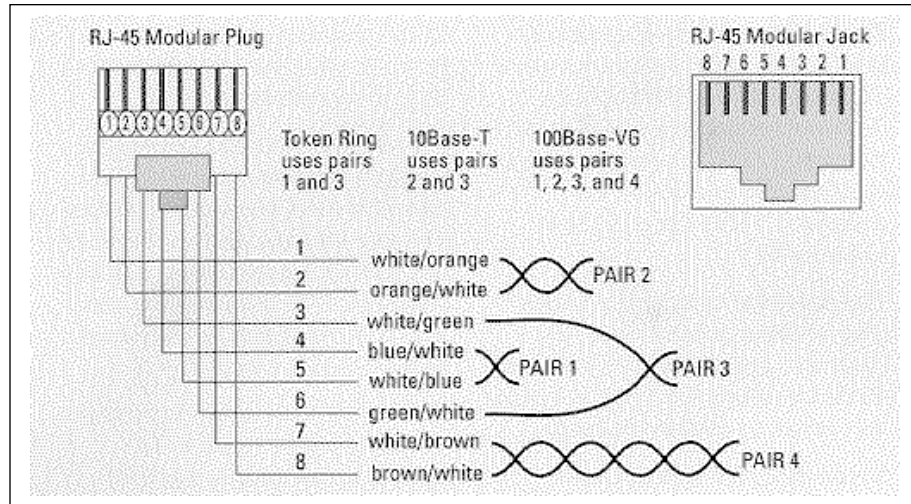

Figure 7-13 Interconnect Cable Connections to Indoor Junction Box
4. Using Figure 7-13 as a guide, use the 110 punch down tool to punch down each wire into the slot on the punch down block (reference the following Figure 6-16 which shows the inside of the Junction Box).